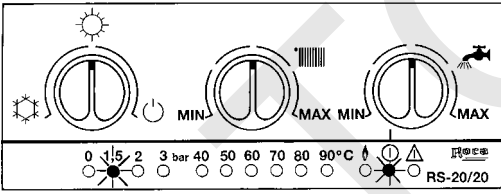

Fig. 11
The service programmed may be cancelled by turning the dial (1) to the  position. See Figure 11.
When the dial (1) is left at  (See Fig. 11), and independently of any conventional protection systems, a permanent protection system will operate on the circulator and burners, giving the following services: